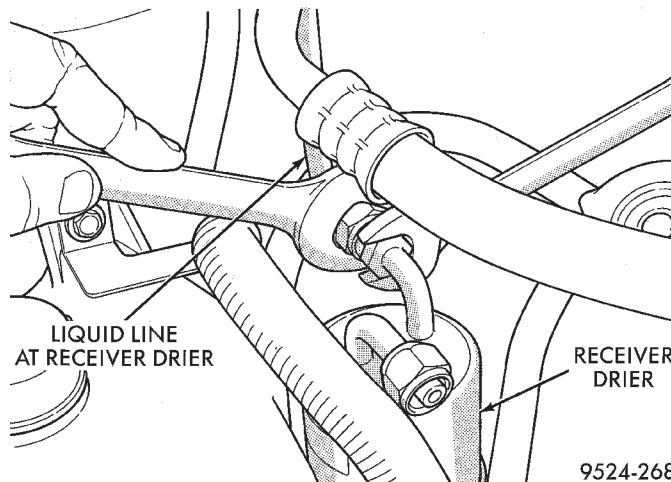

**Fig. 60 Liquid Line At Receiver/Drier**
(4) Disconnect liquid line from the receiver/drier (Fig. 60).
(5) Remove the liquid line from the vehicle.